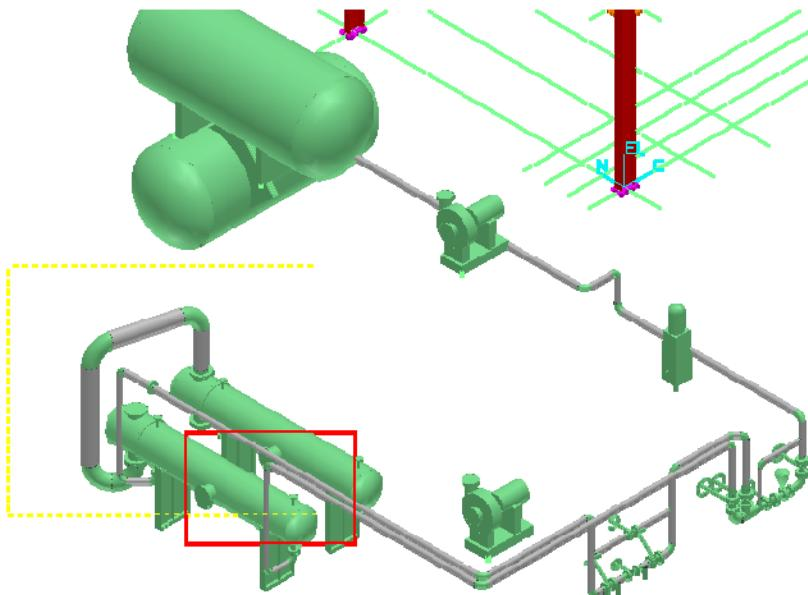

Figure 12: Overlapping Fence
5. Place a fence around Pipeline 403-P by dragging the dashed fence lines around Pipeline 403-P. The fence should cover some portion of Pipelines 402-P and 401-P, as indicated by the dotted lines in Figure 12.